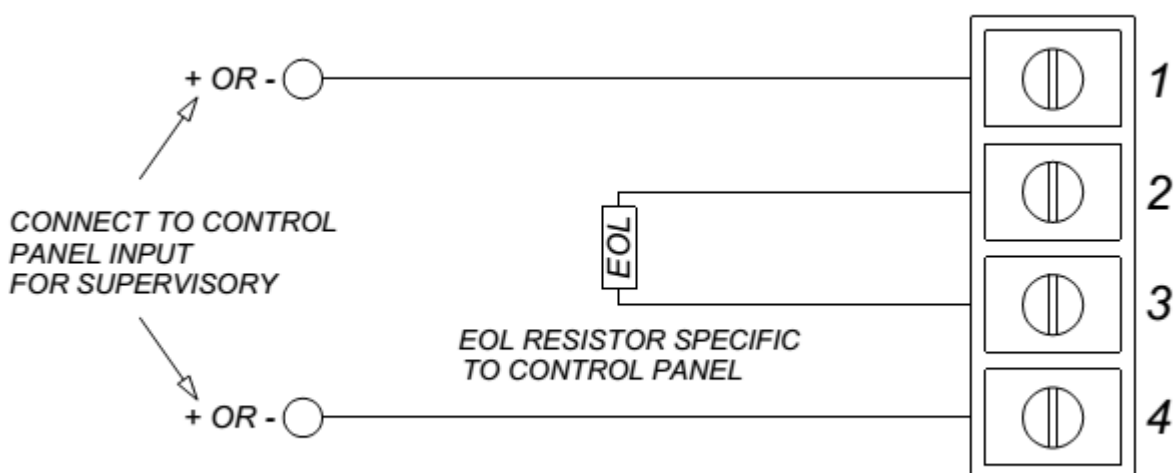

Figure 51: Wiring Diagram
- f. The end of line (EOL) resistor is fitted to the terminal block 2 & 3. At the same time, separate the two 22-14 AWG wires, strip and remove the wire covering from the ends. Insert these two wires through the ½ inch size conduit fitting into the terminal 1 & 4 for connecting to fire control panel. (See Figure 51 wiring diagram)